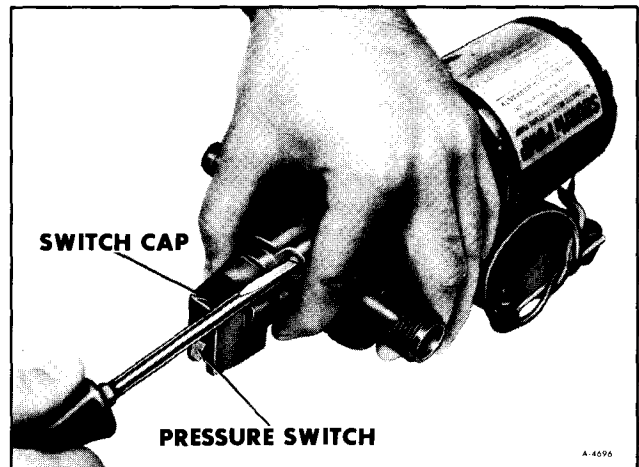
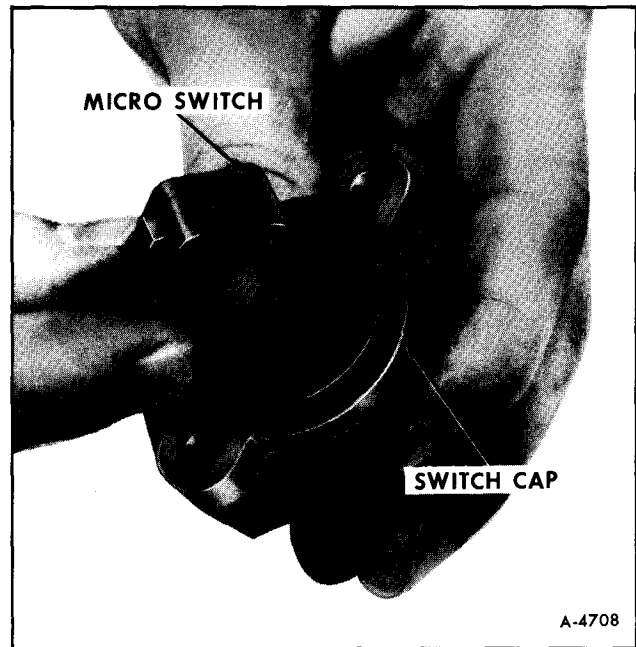

Figure 25—Removing Switch Cap
Figure 37—Putting Micro Switch in Switch Cap
1. Hold switch cap securely (figure 25) while removing two screws because spring inside has
11. Place micro switch in switch cap (figure 37) and secure cap to upper housing with two screws. Hold cap securely against spring pressure while turning screws (figure 25).